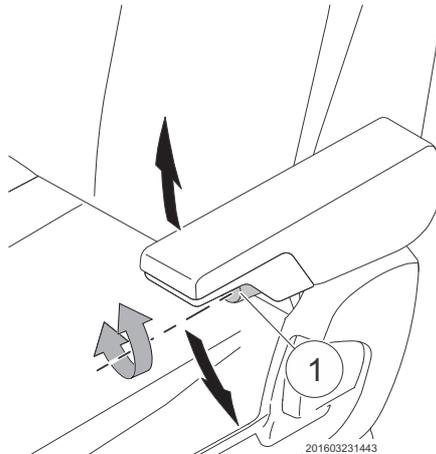

Fig. 61 Adjusting the arm rest inclination
- 1 Turn the handwheel (Fig. 61/1) outwards.
- 2 Turn the handwheel (Fig. 61/1) inwards.